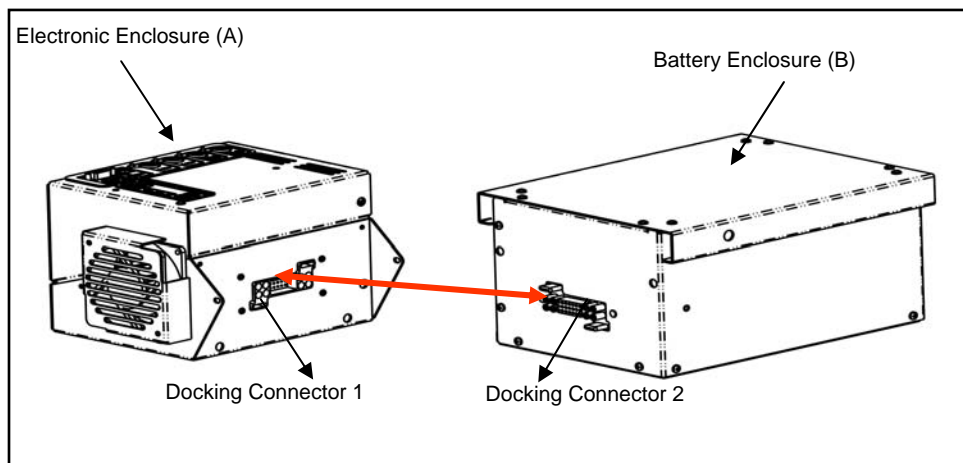

Fig 8: Docking Connection
- 2 Connect electronic enclosure (A) and battery enclosure (B) at docking connector (Fig 8).